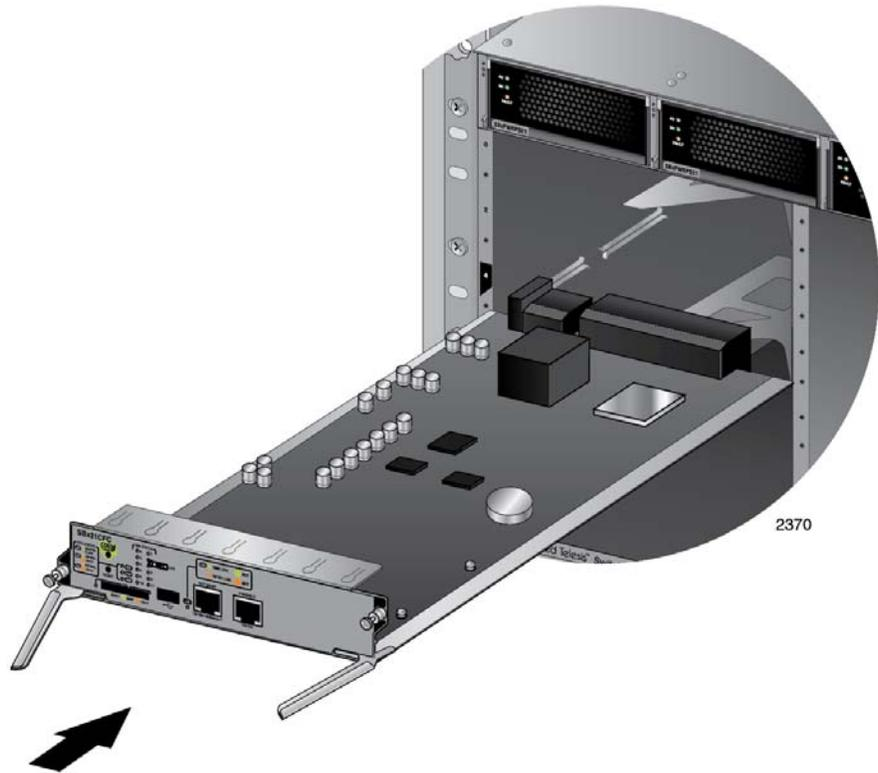

Figure 70. Aligning the AT-SBx31CFC Card in the Chassis Slot
6. Align the edges of the AT-SBx31CFC Card with the internal chassis card guides in slot 4 or 5 of the AT-SBx3112 Chassis. Figure 70 on page 133 shows the AT-SBx31CFC Card aligned in slot 4.